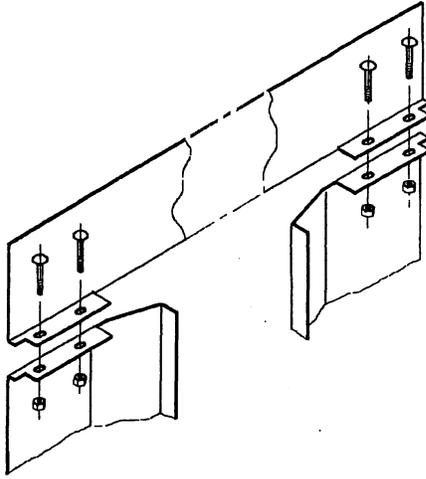

Figure 12a Faceplate Assembly
2. Line up the holes of the side and top panels and install the four bolts loosely (see Figure 12a).